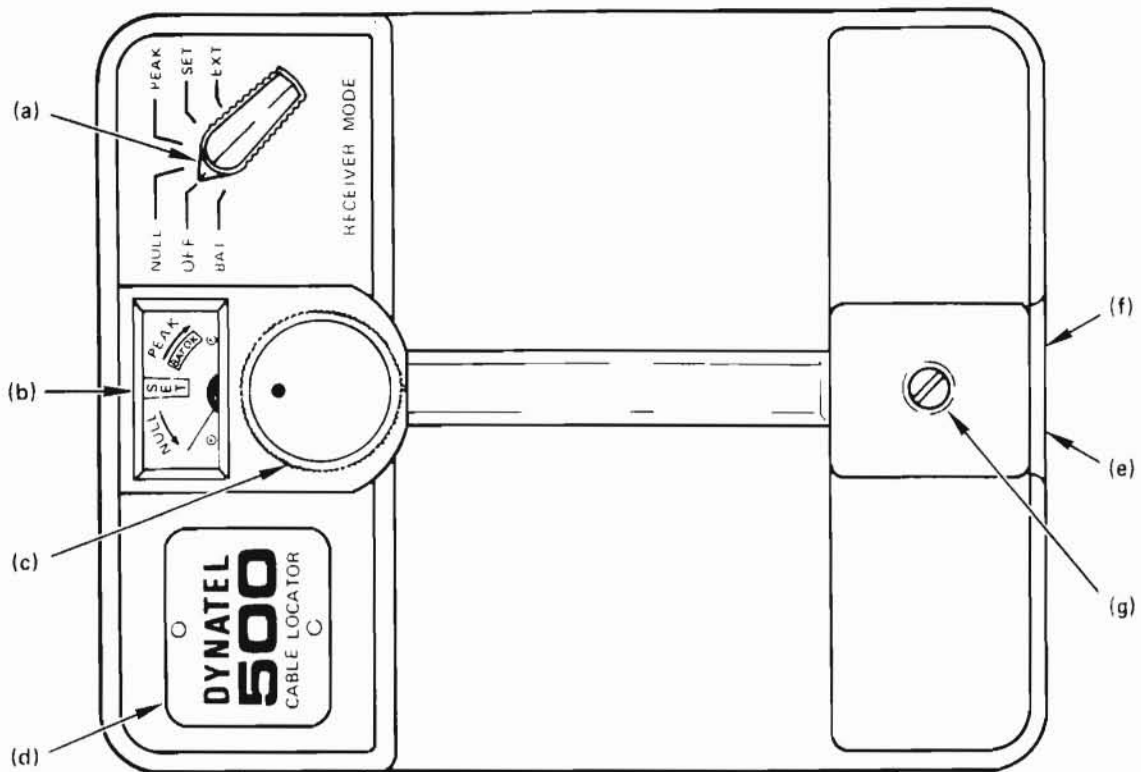

Fig. 4 – Receiver Unit Panel. Functions are Keyed to Text in Paragraph 2.03.
2.03 The Receiver Functions are shown in Fig. 4, and described below: